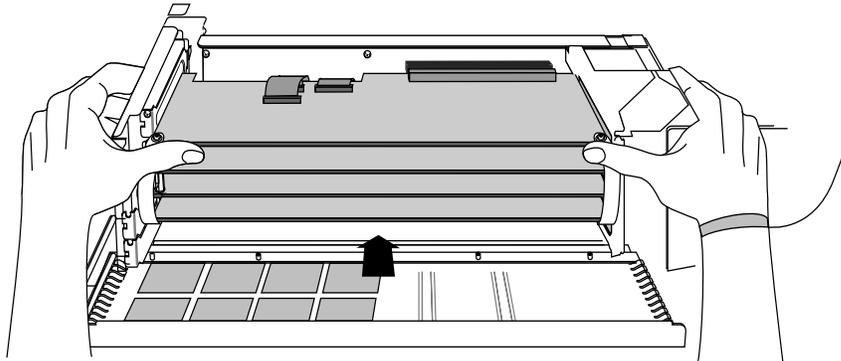

Figure 1-34 Inserting the Board Set Into the Chassis
- Slide the board set into the chassis and push the board connectors into the corresponding midplane connectors. See Figure 1-34.